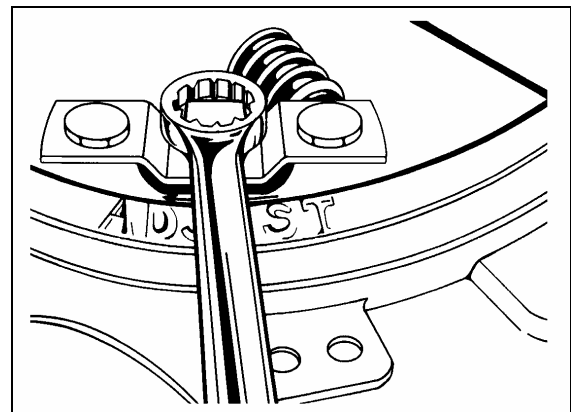

FIGURE 3: SQUARE HEAD BOLT 02006
- FIGURE 3: SQUARE HEAD BOLT.....02-3
3. If clearance is incorrect, release the clutch by depressing the clutch pedal to end of pedal travel. Insert a 3/4" socket (12 points) or a 3/4" box-end wrench through the inspection hole. Depress square-head bolt to adjust clutch (Figs. 3 & 4).